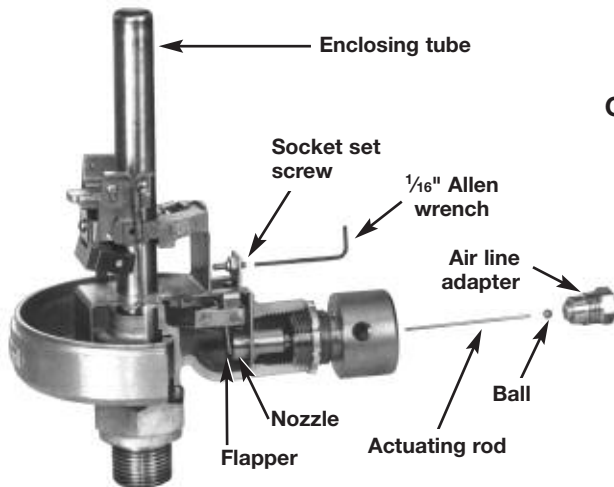

Figure 5
1. Unscrew and remove the adapter. Refer to Figure 5.
5. Reassemble the actuating rod, ball, and adapter; insert into nozzle. Refer to Figure 5.